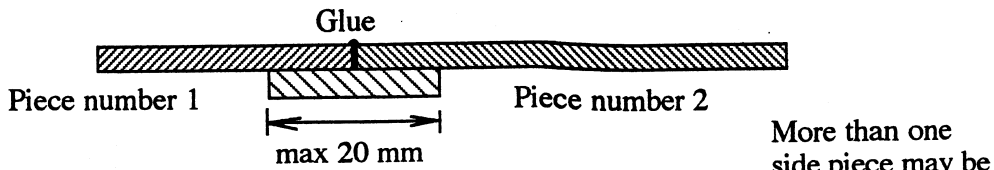

Figure 4c - Butt Joint - with side pieces.
c.) A butt joint can be strengthened by using side pieces. (Figure 4c)